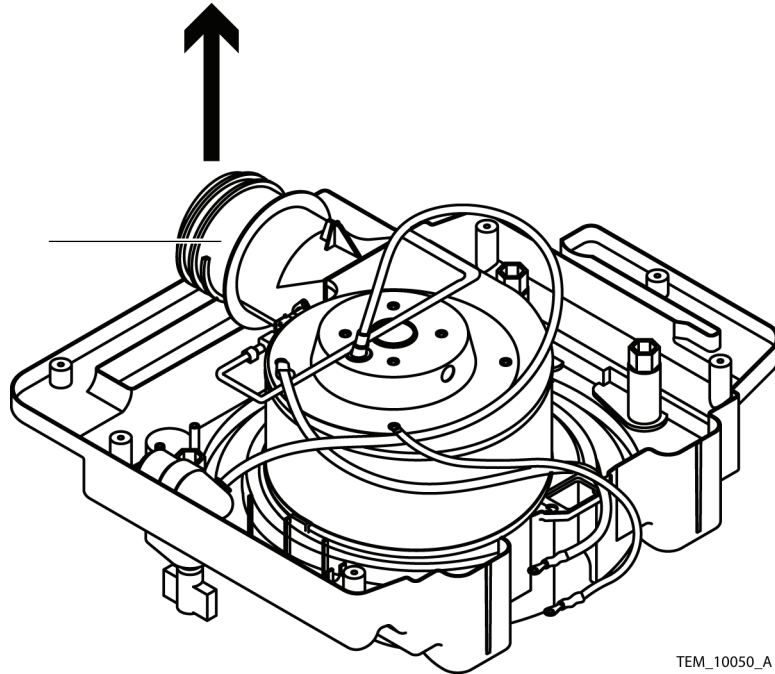

Figure 61. Duct Adapter Removal
5. Lift the duct adapter assembly out of the rear cover assembly. See Figure 61, item 1.